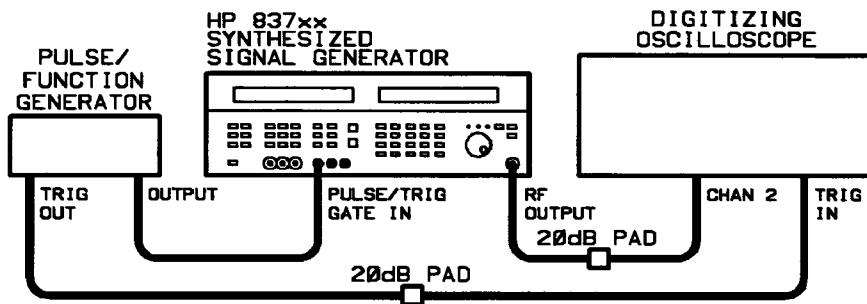

Figure 3-17. Pulse Width Test Setup
1. Connect the equipment as shown in Figure 3-17.